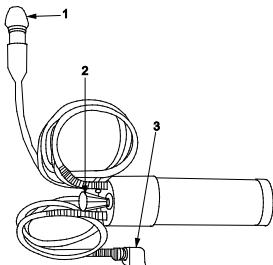

Figure 13. M51 Instrument Light.
1. The hand light (Figure 13, Item 1) is for general purpose use and lighting the reflector. The rheostat knob (Figure 13, Item 2) can be rotated to turn the lamps on or off and to increase or decrease bracket light brightness.
2. The bracket light (Figure 13, Item 3) attaches to elbow telescope slotted bracket and lights up the telescope reticle.